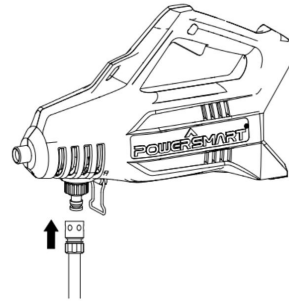

Fig.5
2. Attaching house as shown in Fig.5.